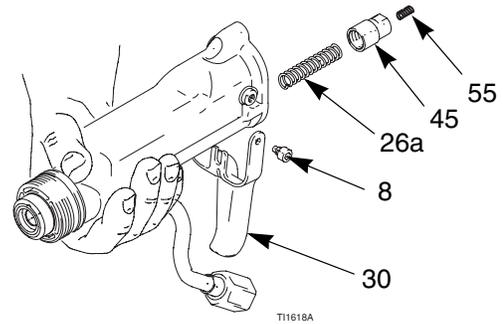
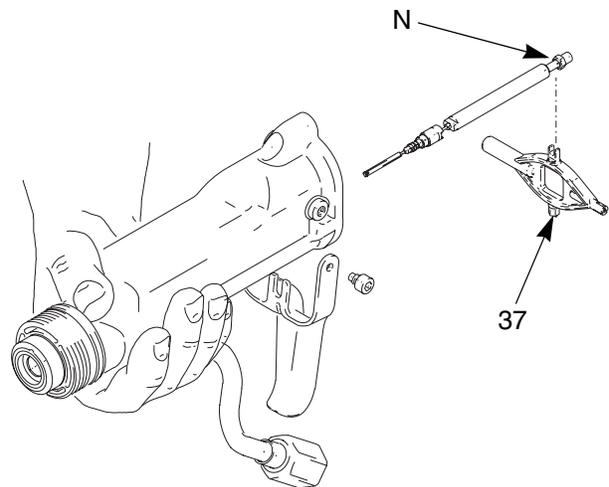
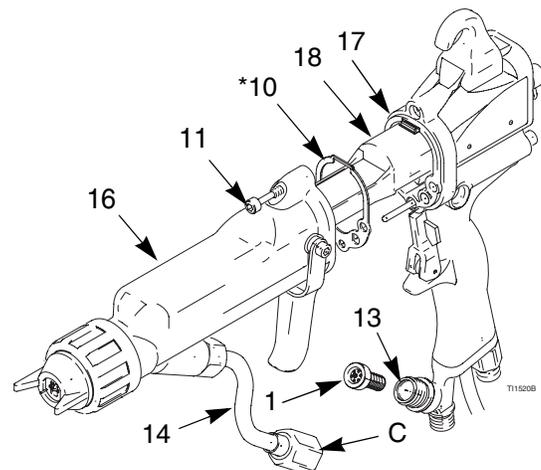

Fig. 13. Spring Cap and Springs
Fig. 14. Fluid Needle Removal
Fig. 17. Barrel Installation
3. Remove the barrel (16), page 31.
4. Remove the trigger screws (8) and trigger (30).
5. Remove the spring cap (45) and the spring (26a) from the barrel. See FIG. 13.
6. Place the 2 mm driver (44) in the back of the fluid needle assembly. Push the tool in and turn it counterclockwise about 12 full turns to unthread the needle.
7. Using the u-shaped tool (37), pull back on the packing nut (N) to remove the fluid needle assembly. See FIG. 14.
1. Be sure the gasket (10*, FIG. 17.) and grounding spring (55, FIG. 13.) are in place and the gasket air holes are aligned properly. Replace if damaged.
2. Place the barrel (16) over the power supply (18) and onto the gun handle (17).
3. Tighten the three screws (11) oppositely and evenly (about a half turn past snug).